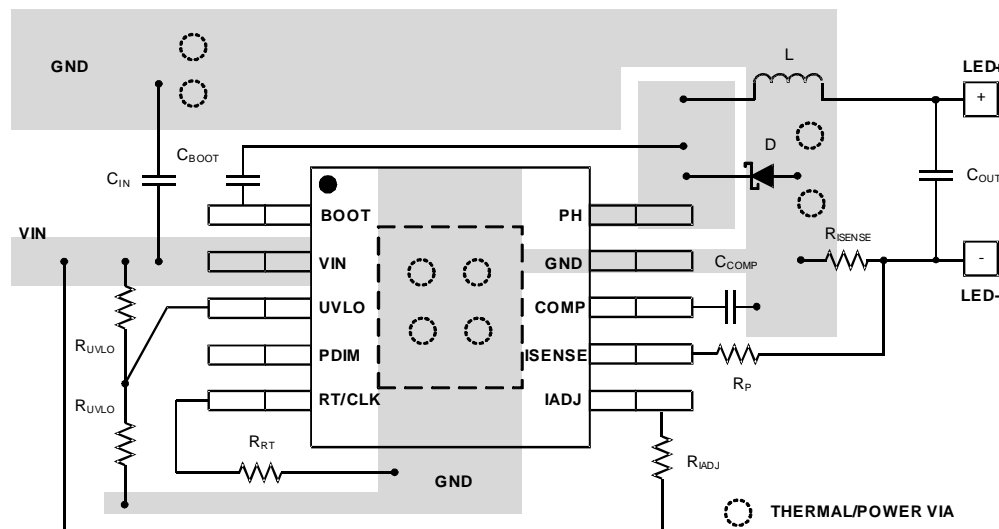

Figure 17. Layout Example
An example of a proper layout for the TPS92512 is shown in Figure 17. Creating a large GND plane under the integrated circuit (IC) for good electrical and thermal performance is important.